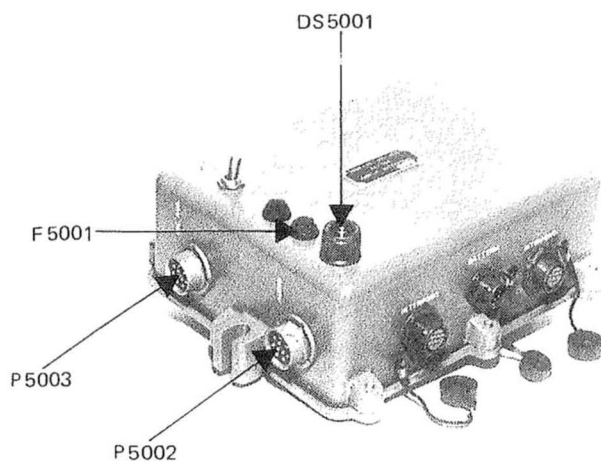

Fig. 2-17 – AMPLIFICATORE INTERFONO AI-100
a) ASSENZA USCITE AUDIO E LAMPADINA DS 5001 SPENTA (Fig. 2-17)
b) ASSENZA DI USCITE AUDIO E LAMPADINA DS 5001 ACCESA (Fig. 2-17)